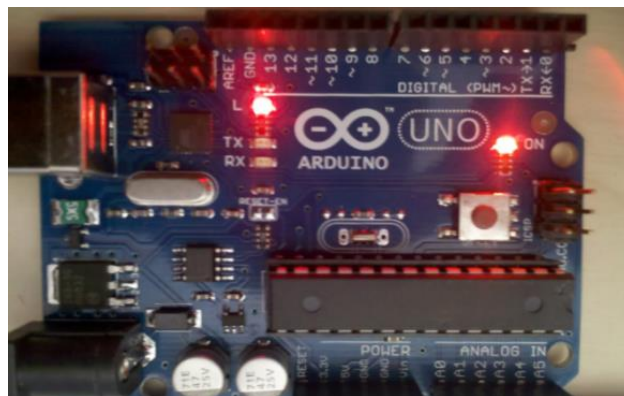

Fig.2.4: Tx and Rx LEDs on Arduino board
- ❖ **Tx and Rx LEDs** – The Arduino Uno board features two labeled indicators, TX (Transmit) and RX (Receive), positioned separately. These orange/yellow LEDs are linked to the USB interface and display the flow of data within the circuit. The TX LED indicates data being sent from the Arduino to the computer, while the RX LED shows data being received from the computer by the microcontroller (Fig.2.4).